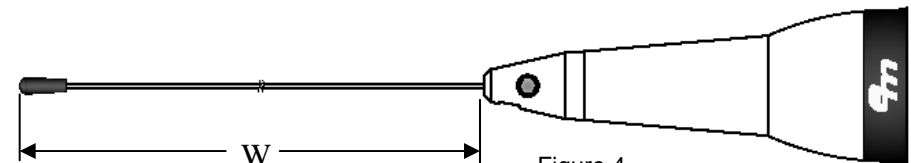

Figure 4
2. **NOTE:** The tuned length "W" is determined by measuring the distance between the top of the whip adapter and the top of the whip. **See Figure 4.** Cut length dimension will be approximately 1" (25mm) longer than Tuned Length "W".
5. Cut the whip as required to establish the specified Tuned Length "W" as shown in Figure 4.